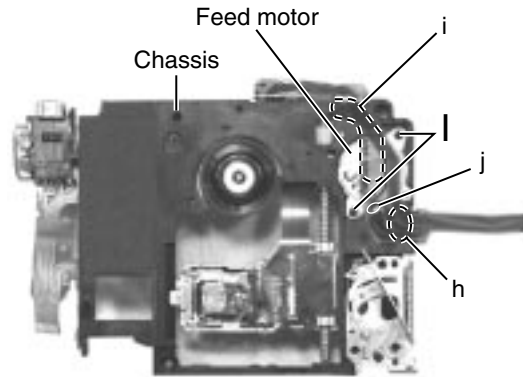

Fig.12
■ **Removing the feed motor(See Fig.12)**